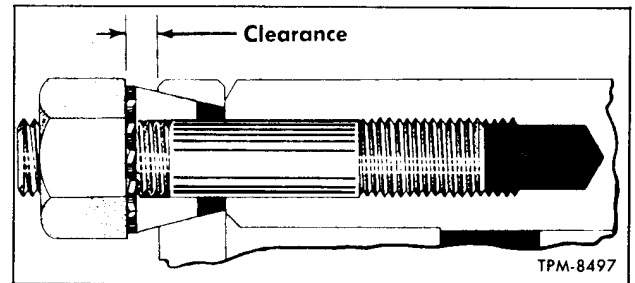

Figure 2—Clearance Between Nut and Flange
5. Observe that clearance exists between nut and flange (fig. 2). If no clearance exists, this indicates excessive wear at studs, dowels, or flange holes. Replace worn parts if necessary.